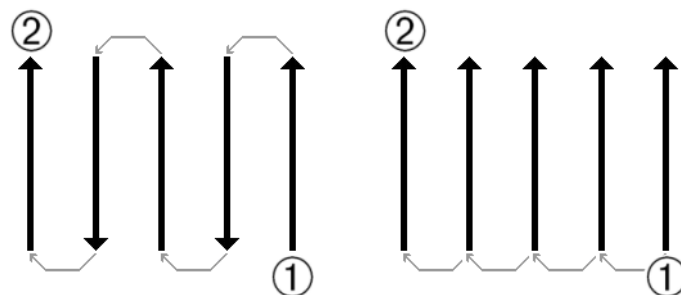

Figure 34: Given manner
Figure 34 shows all different ways of scanning in a scheme. The measurement starts at your starting point ① and ends at point ②.